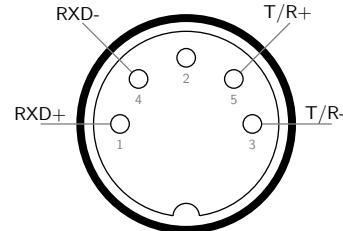

Figure 1.2: DIN-5 male connector (solder side).
1. To minimise the number of connections that need to be soldered, a MIDI cable may be used. Alternatively, solder the pins of a male DIN-5 connector as shown in Figure 1.2. Note that the pin numbers shown in the diagram are for the solder side. Also note that the DIN-5 connector pin numbers are not sequential.